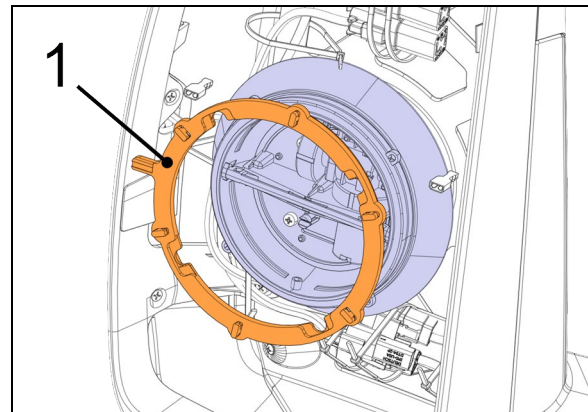

FIGURE 105: (1) LOCK RING
5. Remove the lock ring from the motor (item 1, Figure 105).